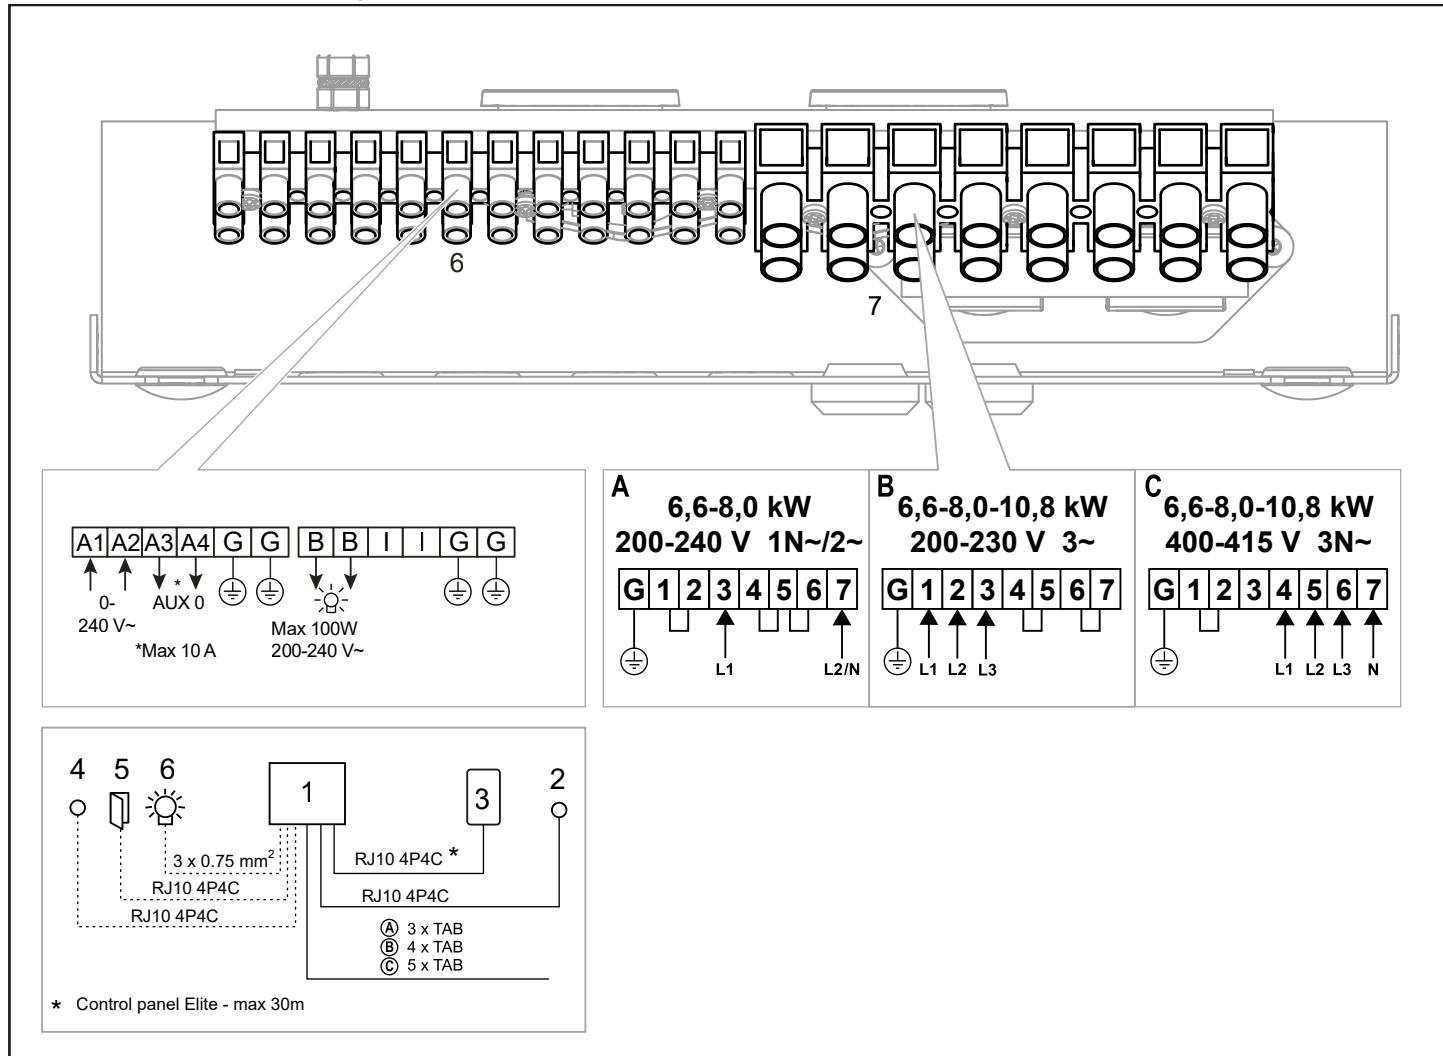

Figure 18: Wiring diagram
5. Connect the electrical cable (see Figure 11) according to the wiring diagram (see Figure 18).
8. Connect the light / Aux cable , see Figure 10, according to the wiring diagram Figure 18 (if relevant)
Contact Tylö Customer Service before connecting to voltages or numbers of phases that are not listed in the wiring diagram Figure 18.